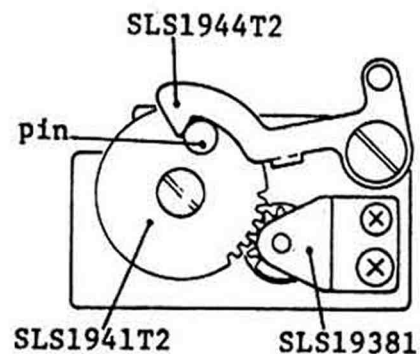

Fig. 28
- 3) Temporarily attach SLS1944T2 Brake lever to its position and then install the gear as shown in Fig. 28.
If not, adjust it by SLS19381 Bracket as shown in Fig. 28.